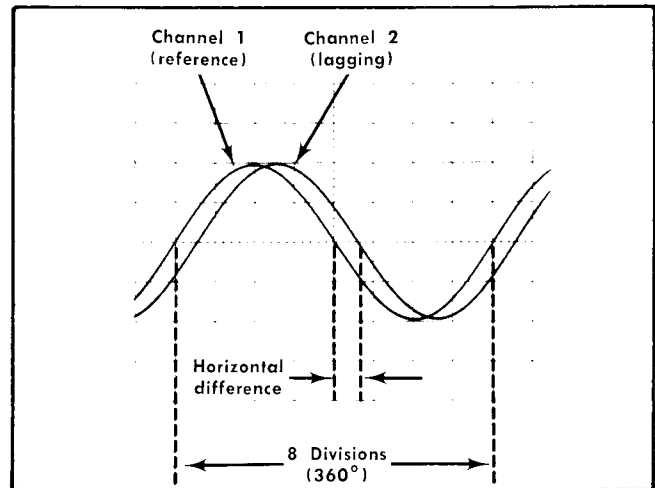
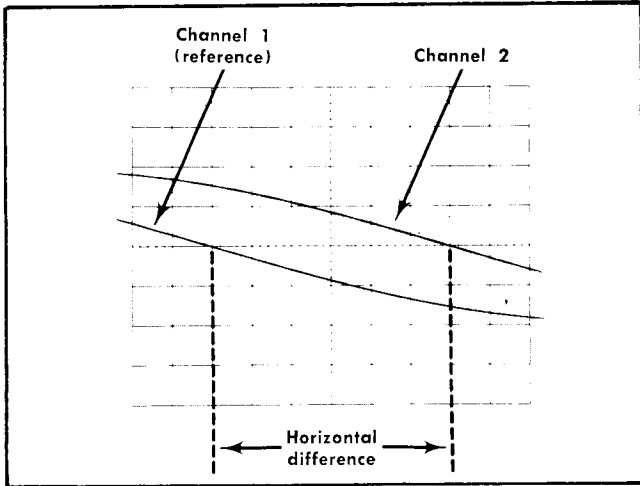

Fig. 2-7. Measuring phase difference.
Fig. 2-8. High-resolution phase-difference measurement with increased sweep rate.
9. Turn the Variable Seconds/Div control until one cycle of the reference signal (Channel 1) occupies exactly eight divisions between the second and tenth vertical lines of the graticule (see Fig. 2-7). Each division of the graticule represents 45° of the cycle ($360^\circ + 8 \text{ divisions} = 45^\circ/\text{division}$). The sweep rate can be stated in terms of degrees as $45^\circ/\text{division}$.
EXAMPLE: Assume a horizontal difference of 0.6 division with a sweep rate of $45^\circ/\text{division}$ as shown in Fig. 2-7.
EXAMPLE: If the sweep rate were increased 10 times with the magnifier, the magnified sweep rate would be $45^\circ / \text{division} \div 10 = 4.5^\circ / \text{division}$. Fig. 2-8 shows the same signals as used in Fig. 2-7, but with the SWP MAG button pushed in. With a horizontal difference of six divisions, the phase difference is: